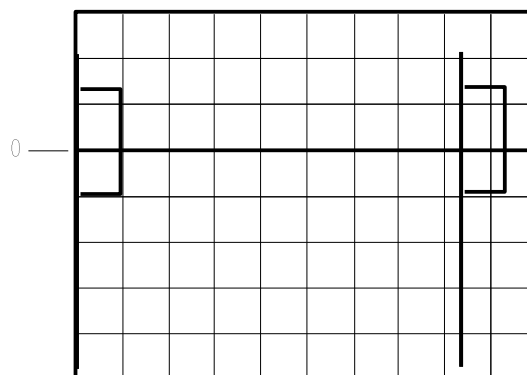

Figure 2
6.2.11 Waveform on scope (AGATE) should look like the figure 2 below: